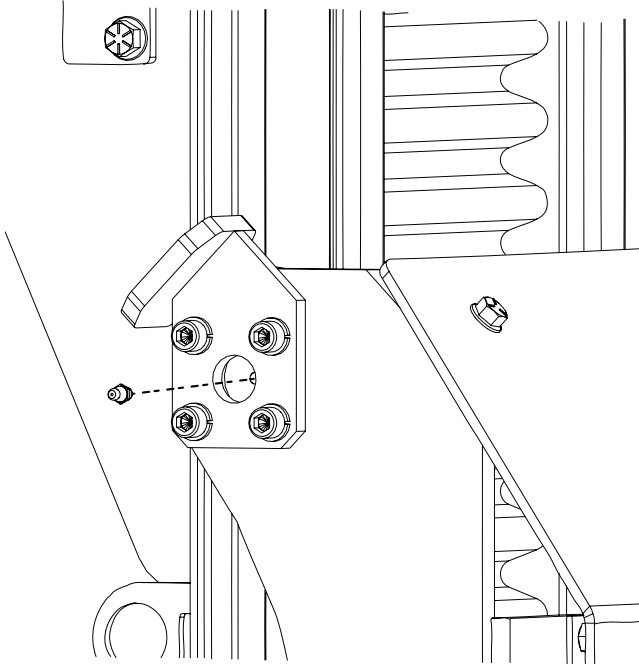

Figure 1
5. Starting with one roller, use a 1/4" drive set with a 5/16" socket wrench to remove and retain the grease zerk from the roller (Figure 1).